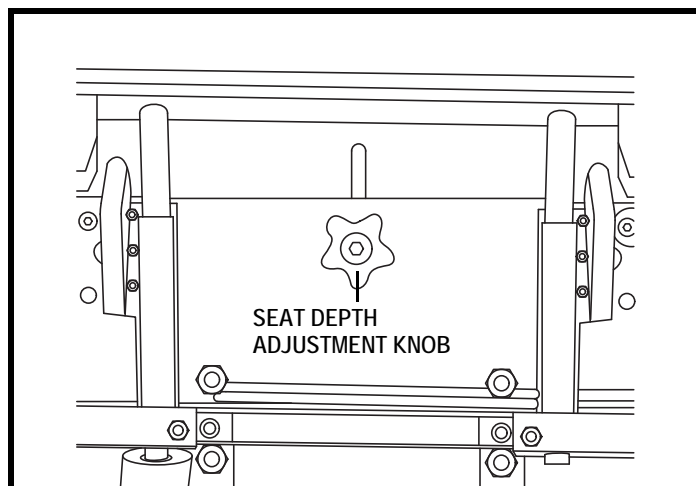

Figure 28. Kids FAST Seat Depth Adjustment
2. Loosen the seat depth adjustment knob below the seat pan. **See figure 28.**
5. Tighten the seat depth adjustment knob and any accessories loosened in step 4. **See figure 28.**